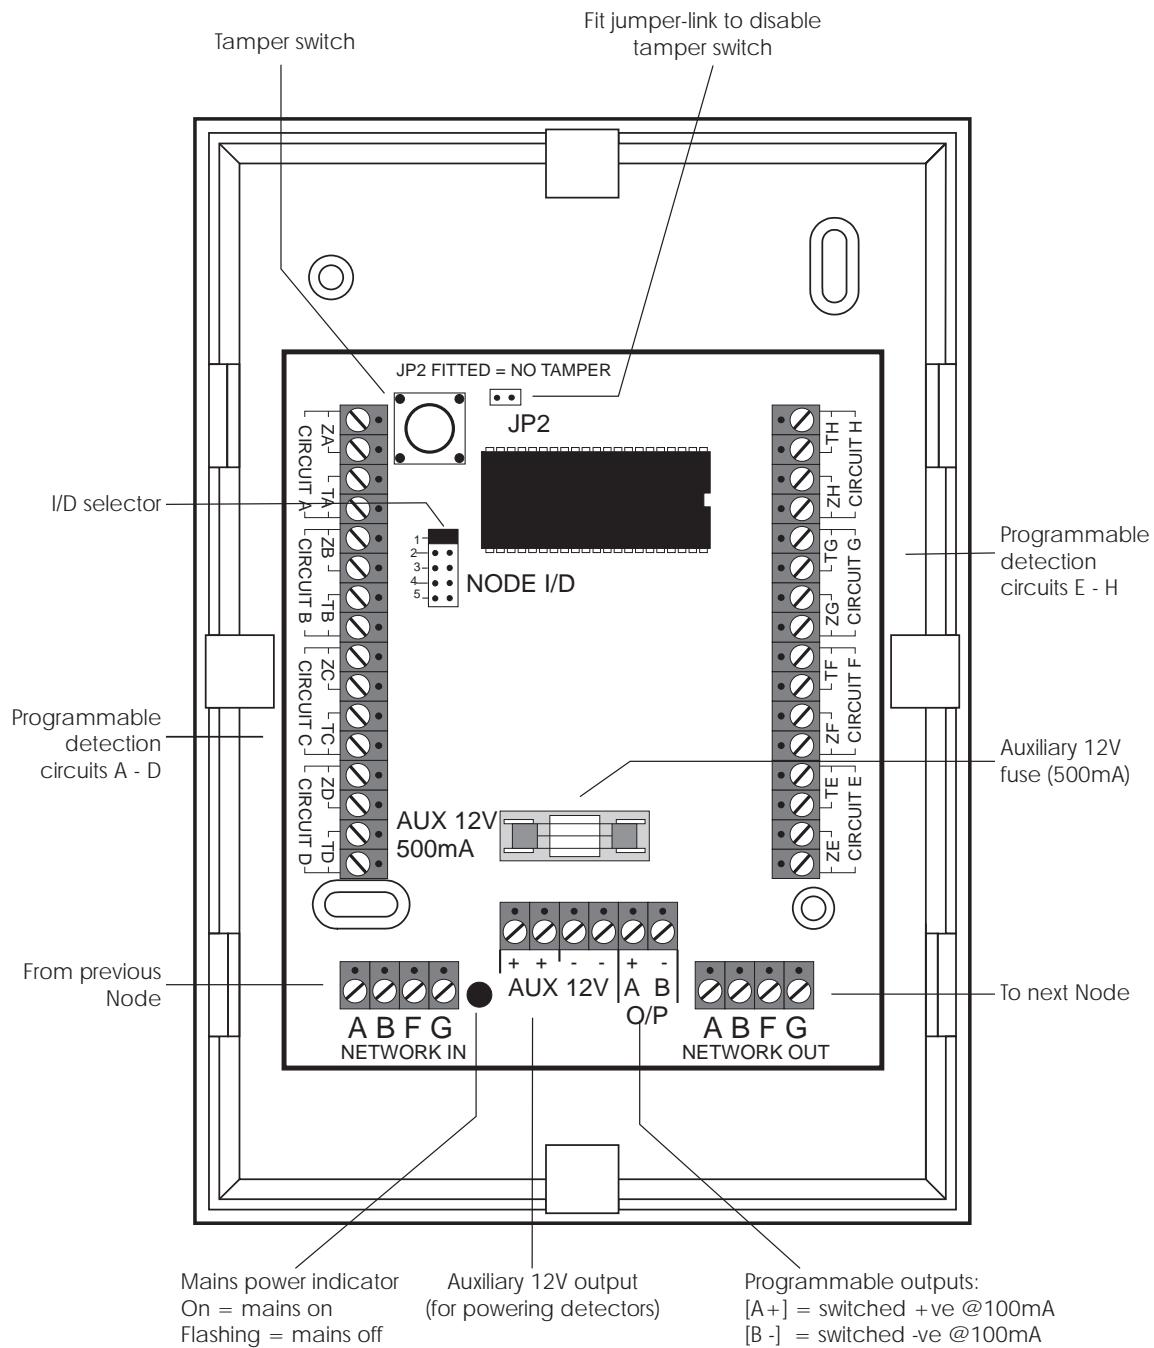

Figure 13 TS900 Node Layout
- If the Node is being fitted inside the control panel you may remove the Node PCB from its base and secure it to base of the control panel using self adhesive feet. If required, the tamper switch may also be disabled by fitting the jumper link across JP2, see *Figure 13*.
- Connect "Node Network" cables and detection circuit cables to the appropriate terminals, see *Figure 13*.